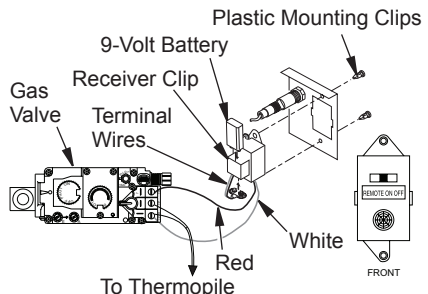

Figure 35 - Installing Remote Receiver (HRC100)
3. Slide 9-volt battery into clip on back of remote receiver and connect battery terminals to battery. Mount receiver onto bracket with clips provided (see Figure 35).